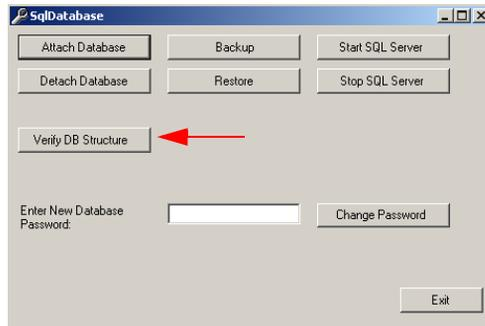

Figure 11
5. Click *Verify Database Structure (Figure 11)* to update the database to its latest version.